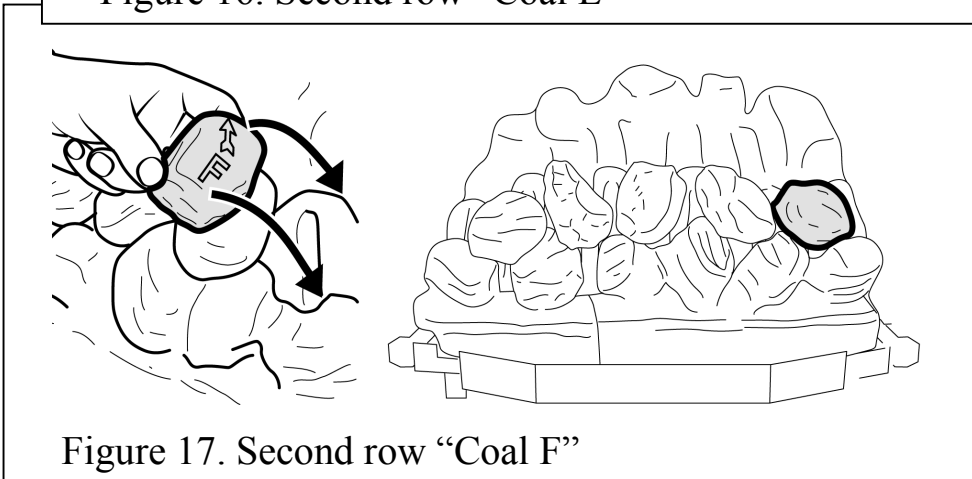

Figure 17. Second row "Coal F"
13. Hold coal 'F' upright with the arrow pointing to the top. Locate coal 'F' as shown in figure 17.